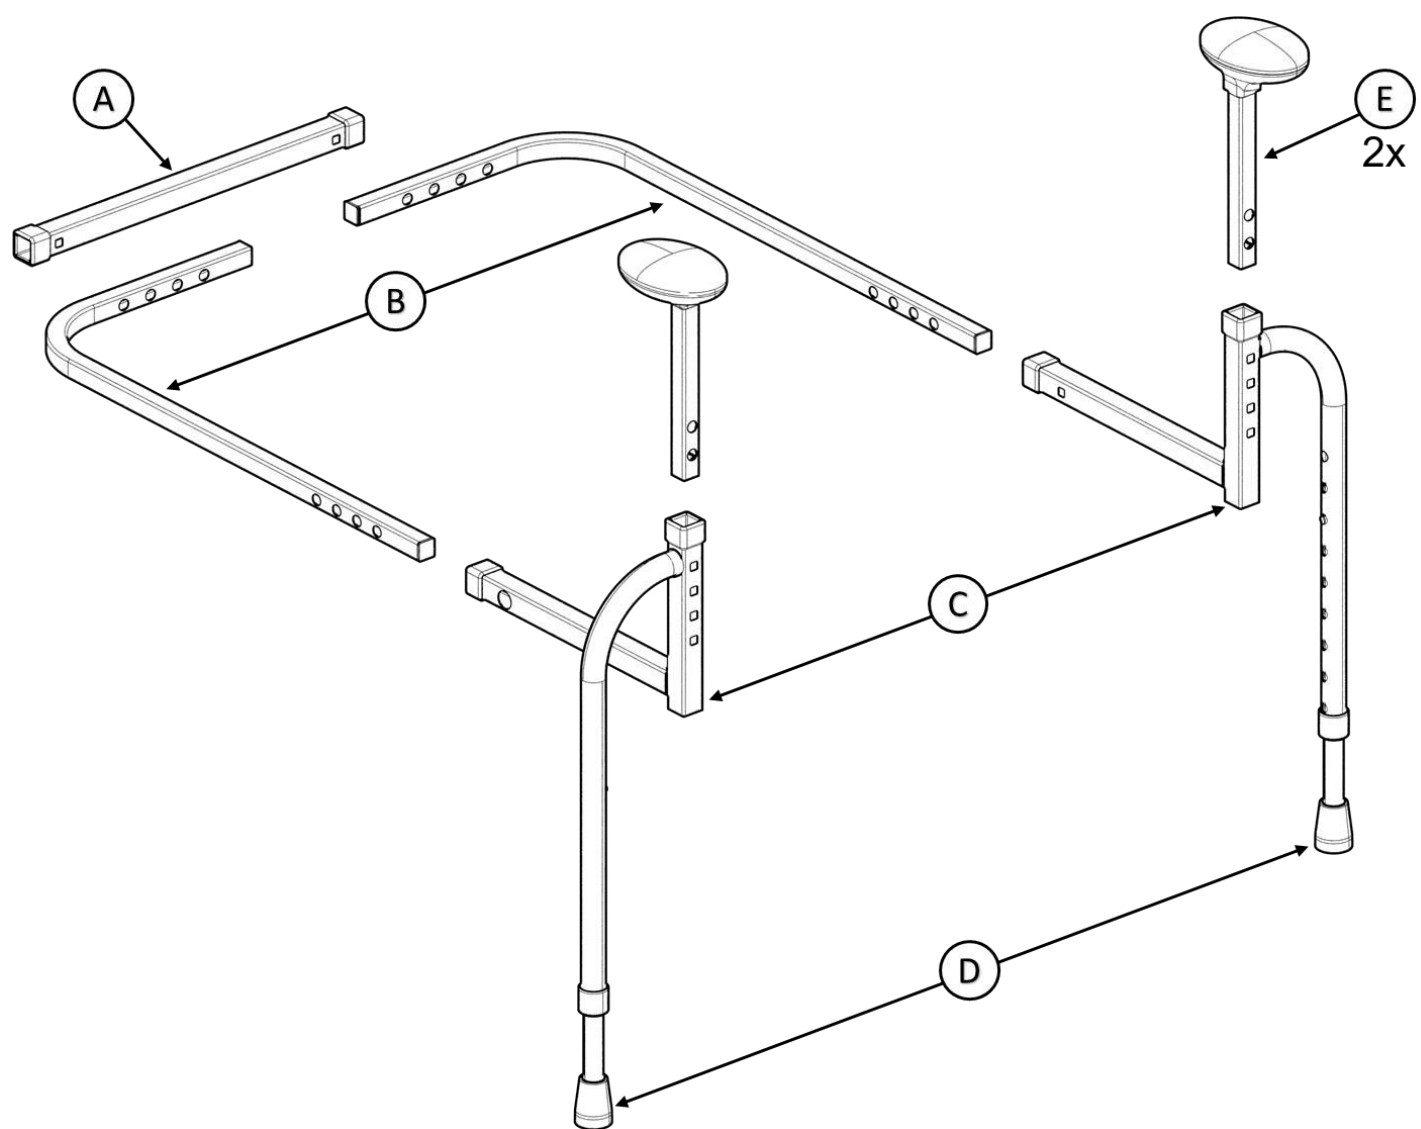

**FIGURE 1**
1. Remove product from box and identify all parts as shown in *Figure 1*.